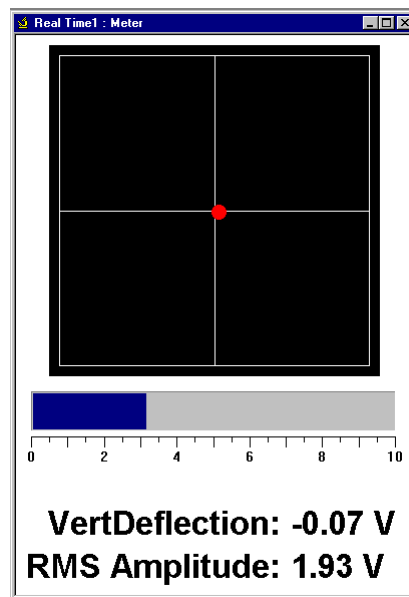

Figure 12: the meter.
- the “meter” shows the status of the detector when the tip is not engaged, it is important when you start an experiment (Figure 12).